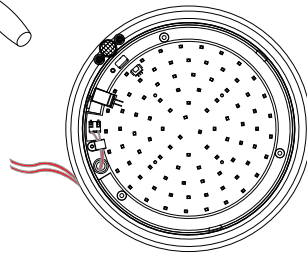

Fig.3
- Step5 Connect the cable to the lamp through the cable entry openings.wire size : 0.2-0.75mm2(as Fig.3)